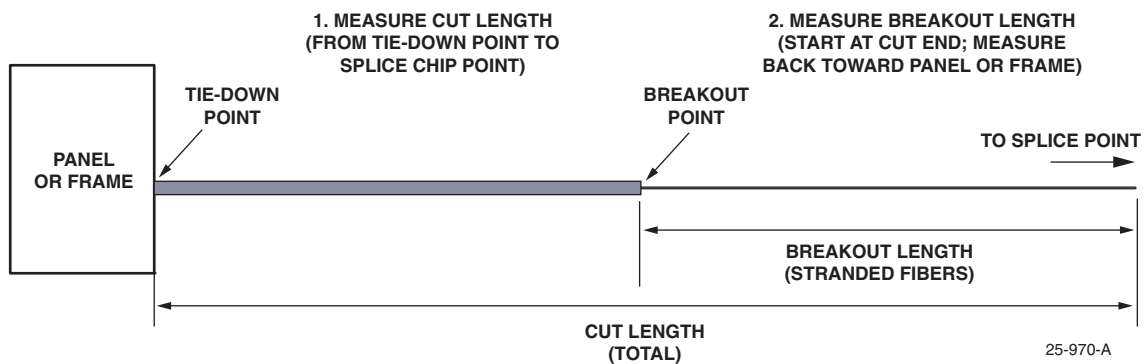

Figure 12. Fiber Lengths
3. Starting at the cut end of the cable measure backwards (right-to-left, see Figure 12) and mark the breakout length (refer to Table 2). Remove outer jacket to expose stranded/ribbon fibers. (Remove any moisture blocking compound from OSP fibers.)